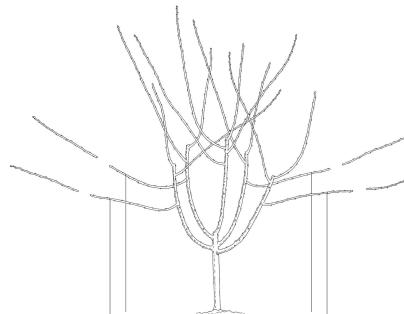

Figure 28
- Select one outward-facing lateral shoot to serve as the permanent bottom whorl. Tie this branch down to a horizontal position to establish a wide base. Head this branch 24 inches from its base (Figure 28). Tie downs will be removed at the end of the third growing season.